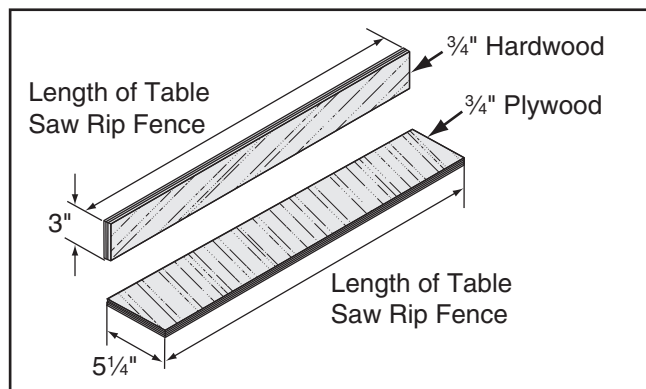

Figure 83. Auxiliary fence dimensions.
1. Cut a piece of $\frac{3}{4}$ " thick plywood $5\frac{1}{4}$ " wide and as long as your table saw fence; cut a piece of $\frac{3}{4}$ " thick hardwood 3" wide and as long as your table saw fence, as shown in **Figure 83**.